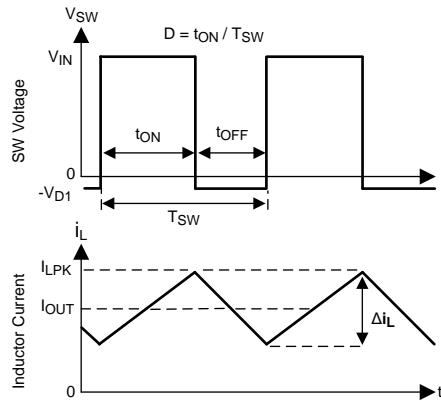

Figure 25. SW Node and Inductor Current Waveforms in Continuous Conduction Mode (CCM)
The following operating description of the LM43602 will refer to the *Functional Block Diagram* and to the waveforms in Figure 25. The LM43602 is a step-down Buck regulator with both high-side (HS) switch and low-side (LS) switch (synchronous rectifier) integrated. The LM43602 supplies a regulated output voltage by turning on the HS and LS NMOS switches with controlled ON time. During the HS switch ON time, the SW pin voltage V_{SW} swings up to approximately V_{IN} , and the inductor current i_L increases with a linear slope $(V_{IN} - V_{OUT}) / L$. When the HS switch is turned off by the control logic, the LS switch is turned on after a anti-shoot-through dead time. Inductor current discharges through the LS switch with a slope of $-V_{OUT} / L$. The control parameter of buck converters are defined as Duty Cycle $D = t_{ON} / T_{SW}$, where t_{ON} is the HS switch ON time and T_{SW} is the switching period. The regulator control loop maintains a constant output voltage by adjusting the duty cycle D. In an ideal Buck converter, where losses are ignored, D is proportional to the output voltage and inversely proportional to the input voltage: $D = V_{OUT} / V_{IN}$.